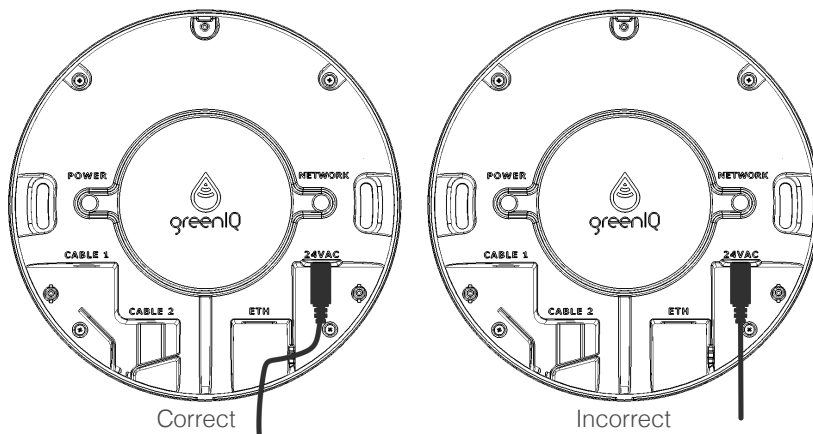

Figure 2
4. Connect the power jack to the unit's Power Adapter Port, and place the Power Adapter cord as shown in Figure 2.